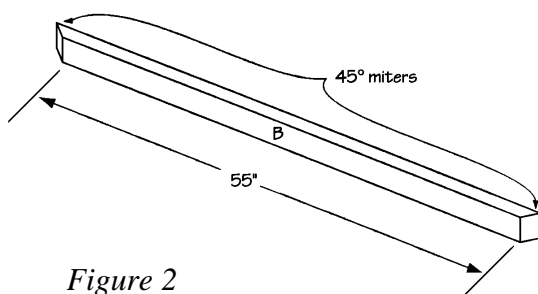

Figure 2
1. Cut two long sides (B) from 2 x 4 pine, each measuring 55 inches long.
2. Miter each end of the long sides (B) at a 45-degree angle, as shown in *Figure 2*.
4. Cut two short sides (C) from 2 x 4 pine, each measuring 31 inches long.
5. Miter each end of the short sides (C) at a 45-degree angle, as you did for the long sides (B).